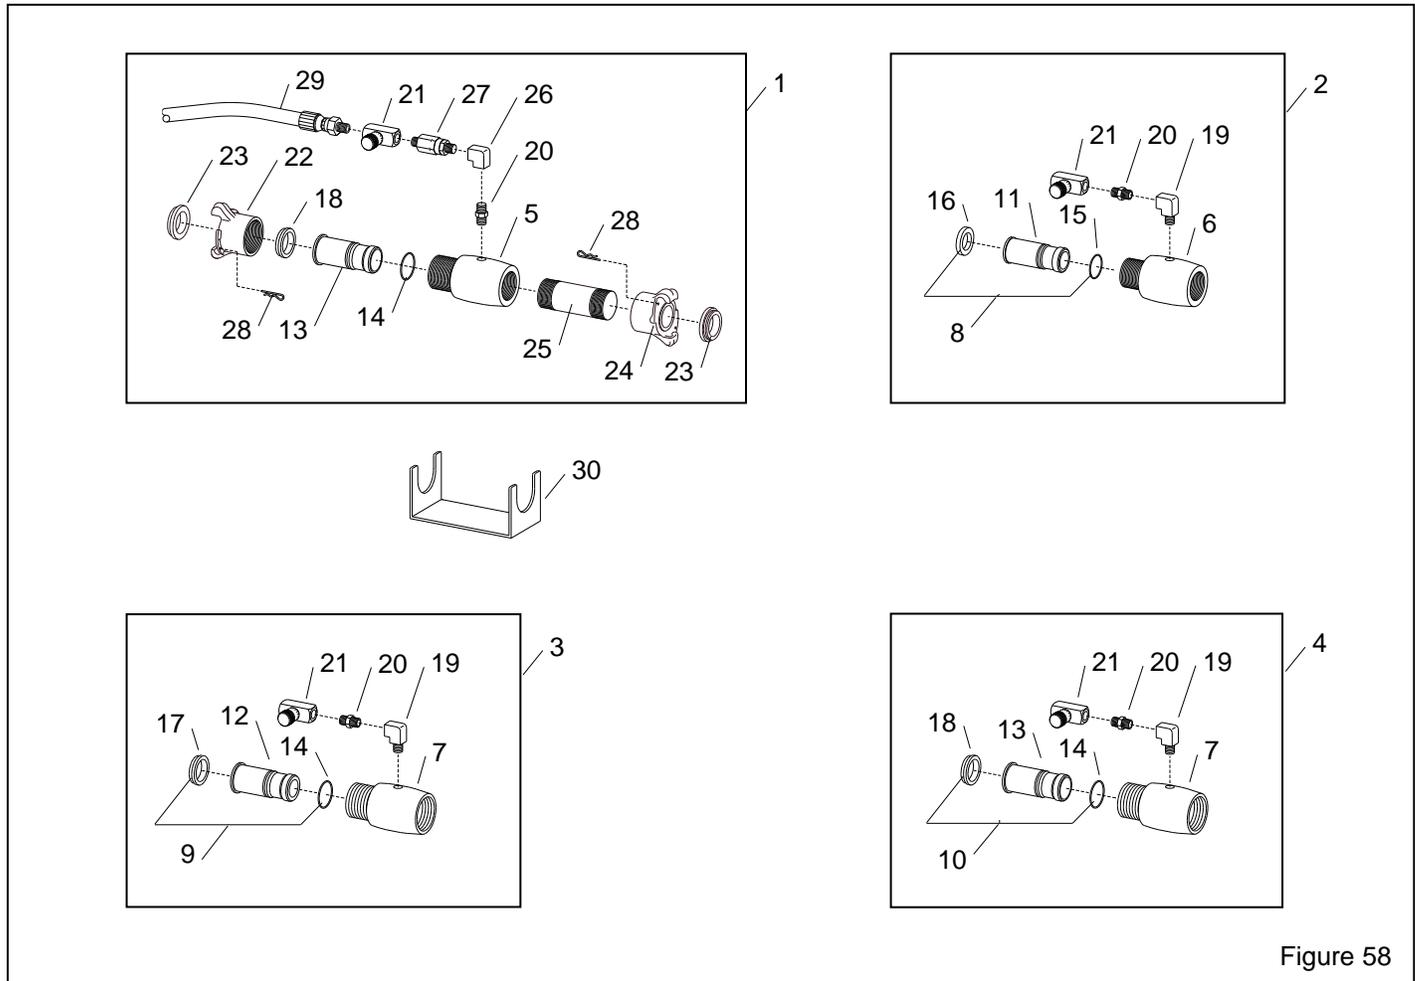

Figure 58
9.11 Injector Assemblies – Figure 58